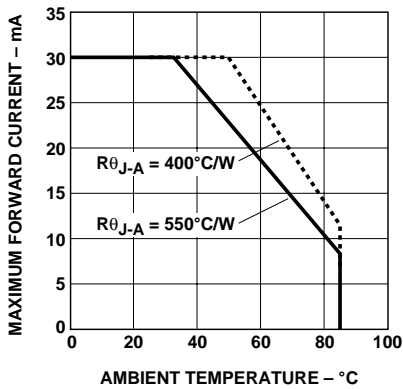

Figure 5. Maximum forward current vs. ambient temperature. Derating based on $T_{JMAX} = 110^{\circ}\text{C}$.
1. Derate linearly as shown in Figure 5.